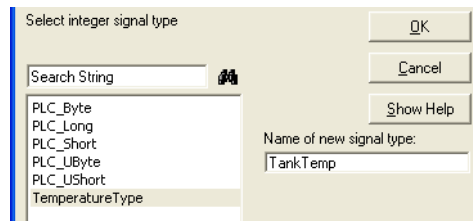

Figure 6. Add Integer Signal Type Instance
16. Enter an instance name. In this example, 'TankTemp' is used, see Figure 6.